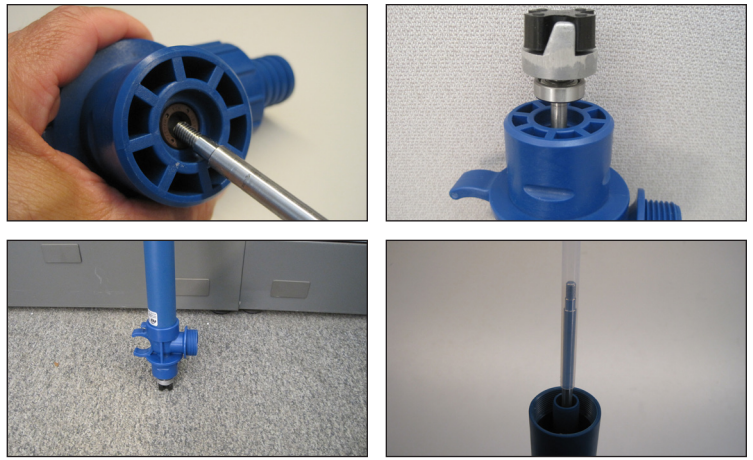

Figure 14 A, B, C, D
- 5. Shaft Installation** - Slide the shaft down through the seal until the bearing engages the bearing bore in the head. Set the half coupling on the floor and push the pump down using the outer tube (item 14) for leverage. Make sure the bearing (item 3) is flush with the top of the head (item 6). While the pump is in this upright position slide the shaft sleeve (item 13) between the shaft (item 4) and inner tube (item 11). The shaft sleeve is self positioning so just push it in all the way until it drops down in completely into the inner tube. See figures 14 A, B, C, D.